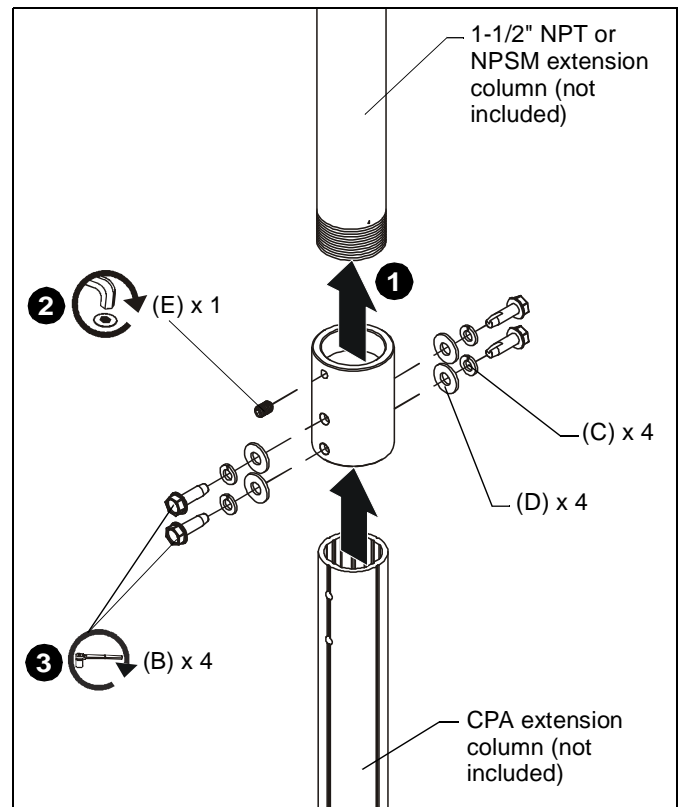

Figure 1
1. Thread CPA264 (A) onto a 1-1/2" NPT or NPSM following ANSI/ASME B1.20.1 (Schedule 40, 0.154" minimum thickness steel or aluminum-ASTM B221) threaded extension column (not included) until tight, with a minimum of four threads engaged. (See Figure 1)
2. Install and tighten one 5/16" x 1/2" set screw (E) through CPA264 and against column. (See Figure 1)
3. Install UL Listed CPA extension column (not included) following instructions included with extension column and using four 5/16" x 1" self-tapping screws (B) through four 5/16" split lock washers (C), and four flat washers (D). (See Figure 1)